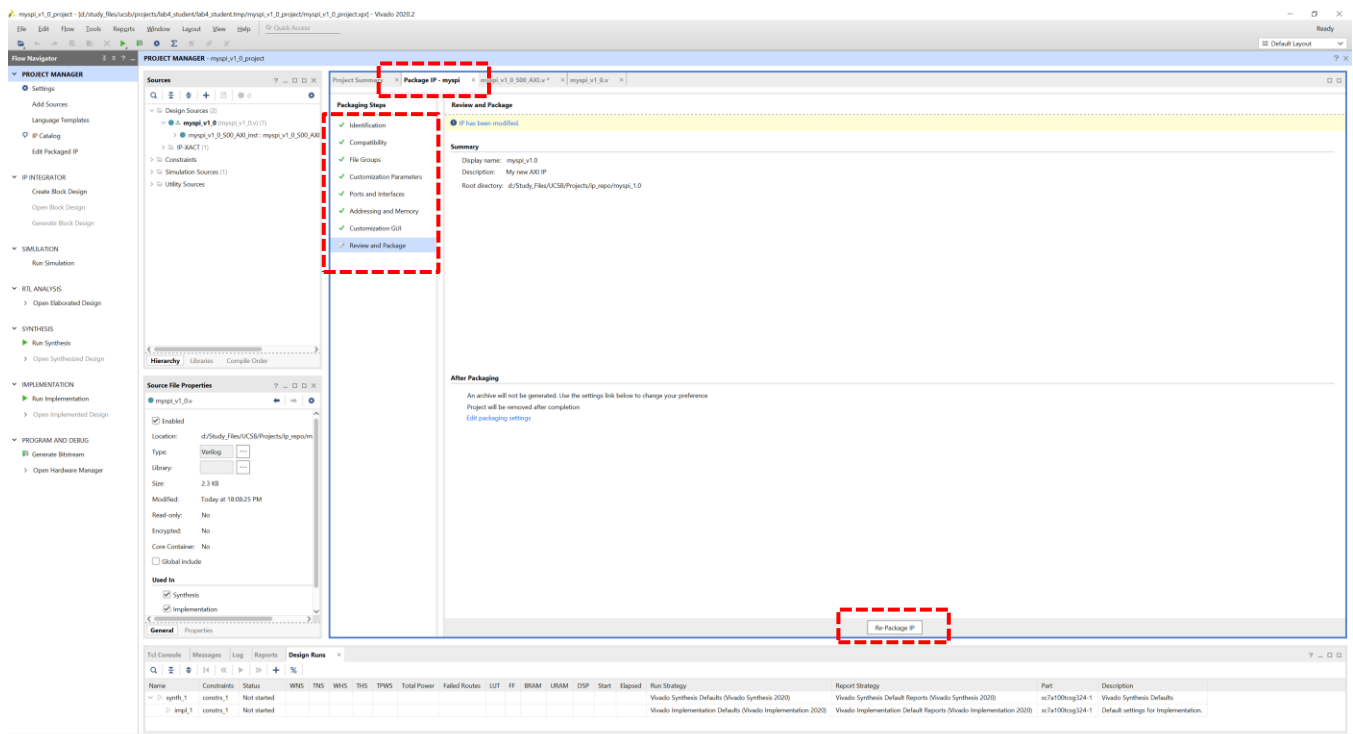

Figure 14: Repackage IP.
- 4) As in Figure 14, You should see all sub tabs are green checked. Go to "Review and Package", click "Re-package IP".